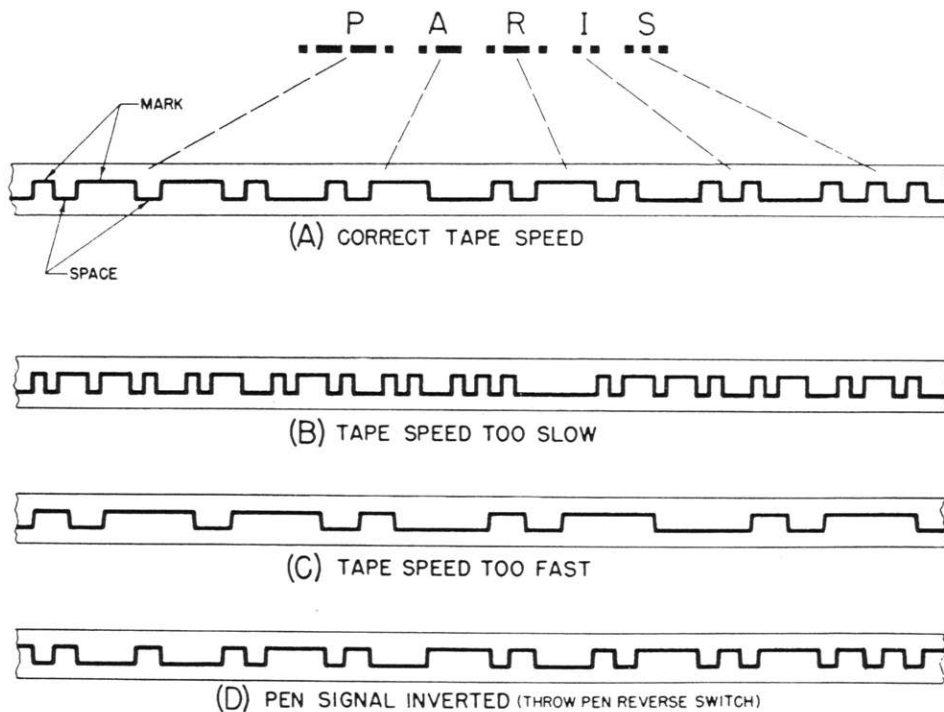

Figure 7-17.—RD-112A/U recorded tape signals.
8. The SPEED control should be calibrated to 25 feet per minute, when recording, to obtain signal parameters. When recording morse code, the recording speed should be adjusted so that the dot (dit) characters appear to be approximately square. (This means that the horizontal and vertical lines should be equal in length.) Figure 7-17 shows examples of recorded tape signals.